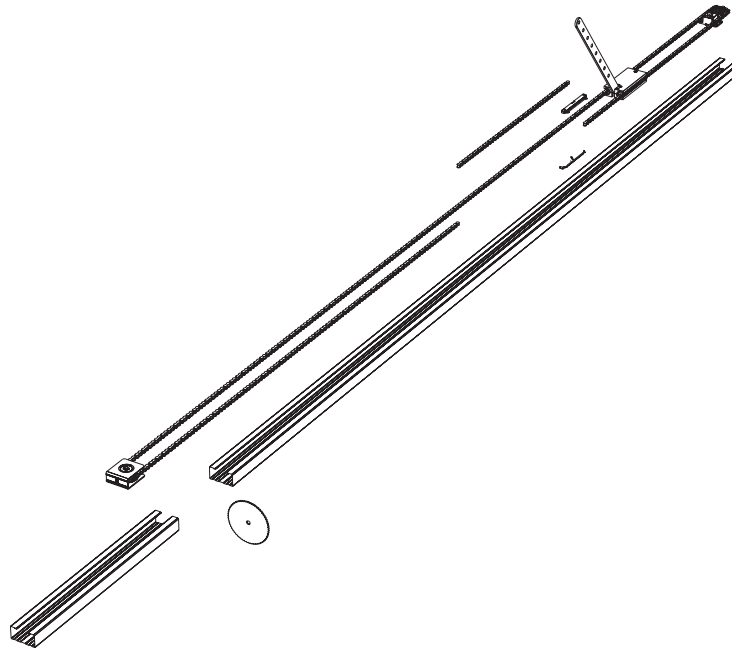

Figure 5
6. Cut the guide and shorten the chain to the required dimensions (fig. 5).